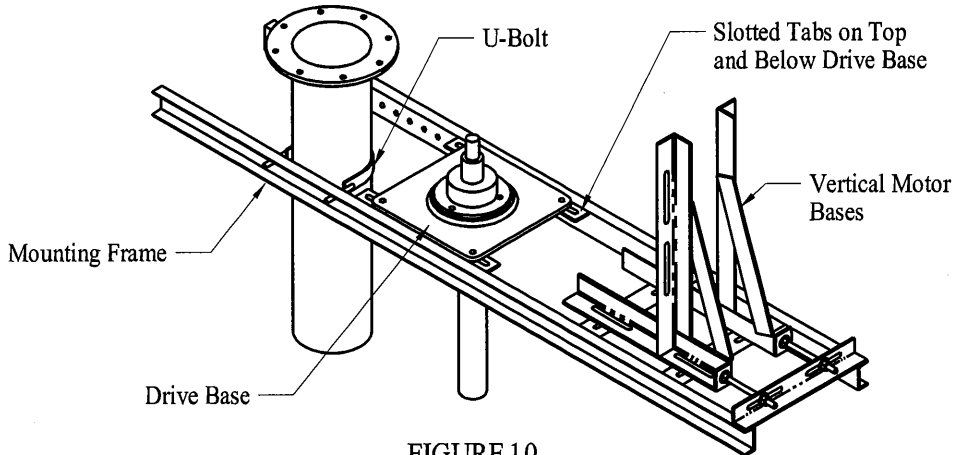

FIGURE 10.
1. With the pump and discharge pipe lying on the floor, slide the mounting frame for the pump under the drive base. The four slotted tabs on the mounting frame must be on top of the mounting frame and under the drive base. See Figure 10.